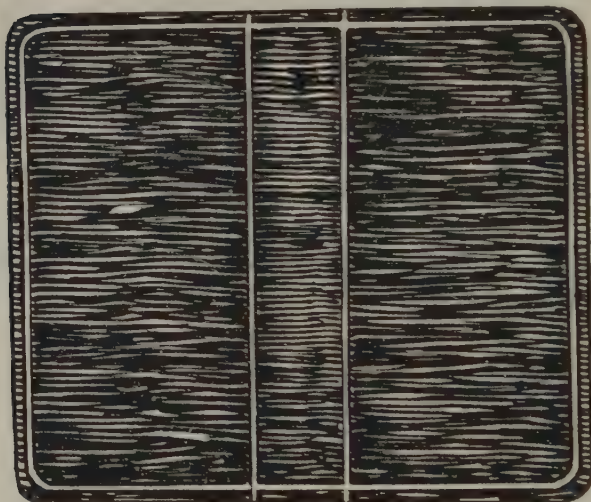

FIG. 247—CREASING PLAN FOR UPRIGHT COVER
4. Crease the face of your cover with a single line creasing iron, as you did your leather cover, and add a vertical line close to and paralleling the two back edges of board. (Fig. 247.)